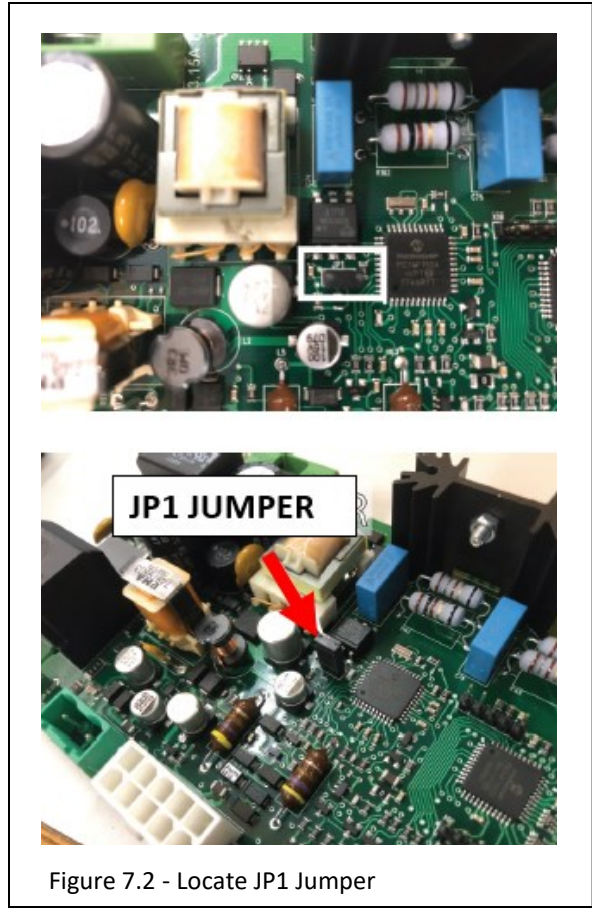

Figure 7.2 - Locate JP1 Jumper
2. Locate the JP1 jumper. It is a small plastic jumper that connects two pins as shown in Figure 7.2.